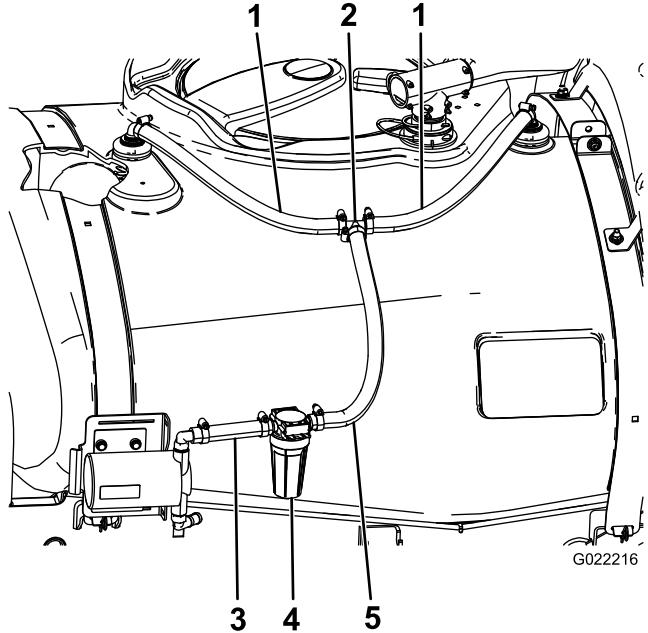

Figure 10
1. Attach the 48 cm (19 inch) hoses to the previously installed rinse nozzle hosebars using 2 hose clamps (Figure 10).
2. Attach the loose ends of the hoses to the tee fitting with 2 hose clamps (Figure 10).
1. Attach the long end of the rinse-filter hose to the tee fitting with a hose clamp (Figure 10).
2. Attach the other end of the rinse-filter hose to the upper hosebarb on the rinse pump with a hose clamp (Figure 10).